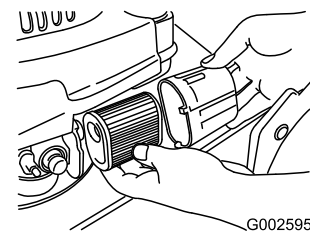

Figure 28
- Rotate the air filter cover to remove it (Figure 28).